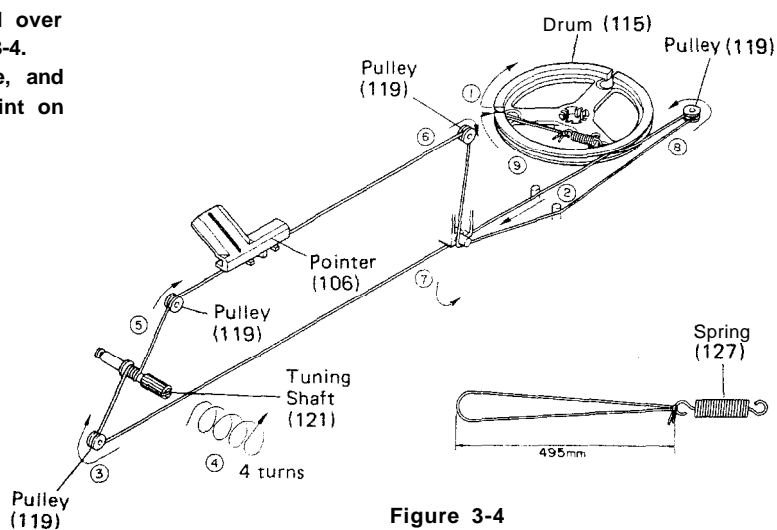

Figure 3-4
- 1) Turn the drum fully clockwise and stretch its cord over the parts in the numerical order as shown in Figure 3-4.